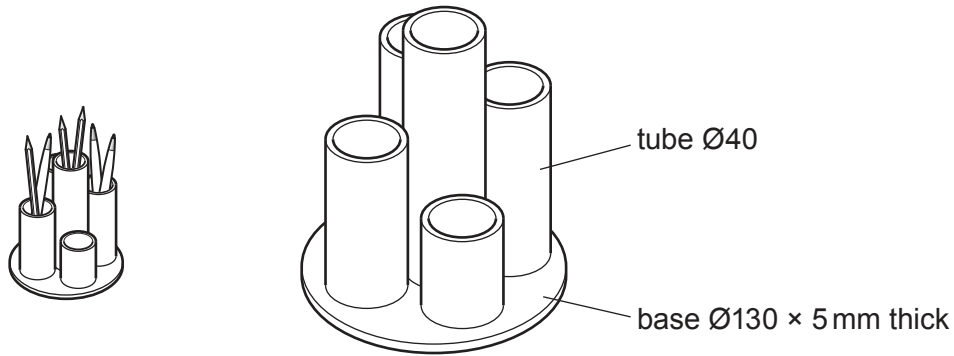

Fig. 11.5
- (e) Fig. 11.5 shows a pen and pencil holder made from acrylic.